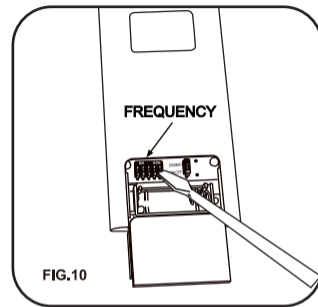

FIG.10
Step6. Carefully feed fan wires up through the downrod. (Fig. 10) Thread the rod into the coupling until the holes line up holes and replace lock pin and hitch pin. Tighten set screws.
NOTE: The Aire Control® System for this DC motor fans is equipped with a learning frequency function which has 32 code combinations to prevent potential interference from other remote units. The frequency on your Receiver and Transmitter units have been preset at the factory. (Fig. 10) No frequency change is necessary, should you desire to install another Minka Aire DC motor fan within the same home or area with a separate frequency code please see the 'frequency interference' troubleshooting section of this instruction manual to learn how to change the frequency.